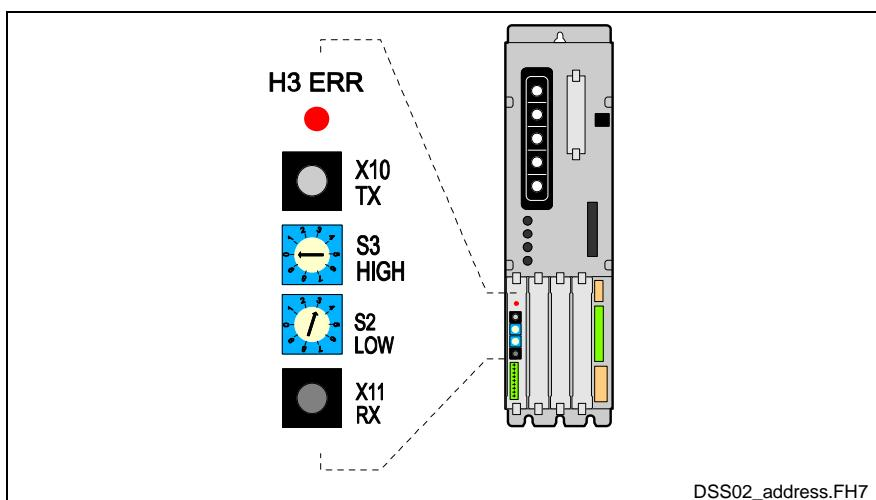
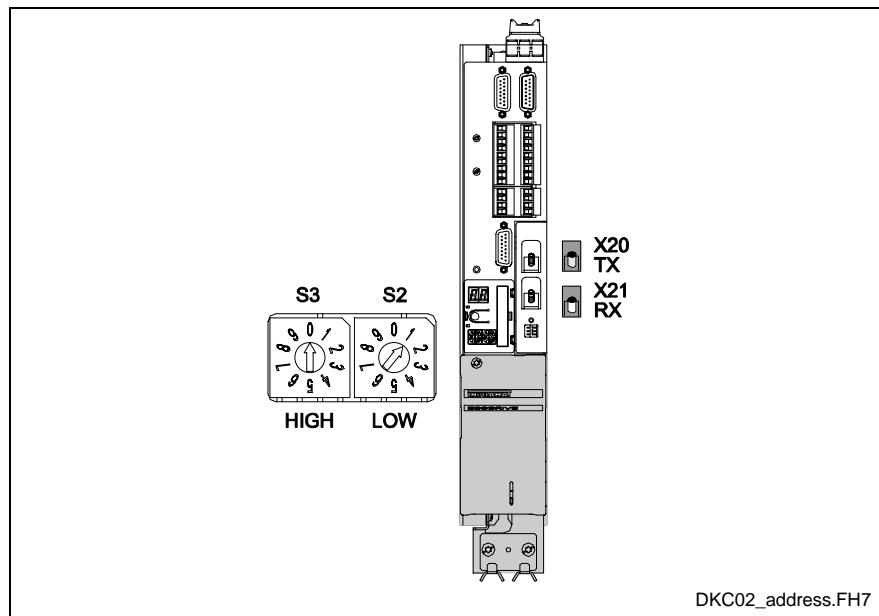

Fig. 9-7: SERCOS Connections for DSS02.1M (DIAX04)
Fig. 9-8: SERCOS Connections for DKC*2.3
In order to achieve proper drive addressing, set the S2 (low) and S3 (high) rotary selector switches on the DSS02.1M and DKC*2.3 firmware module to a unique number for each drive contained in the SERCOS ring. The allowable address range in a VisualMotion system is between 01..40. Refer to Fig. 9-7 and Fig. 9-8.
ECODRIVE03 (DKC02.3) The transmitter output power (TX) on the DKC02.3 is set via DIP switches S20/2 and S20/3. Refer to Fig. 9-8.